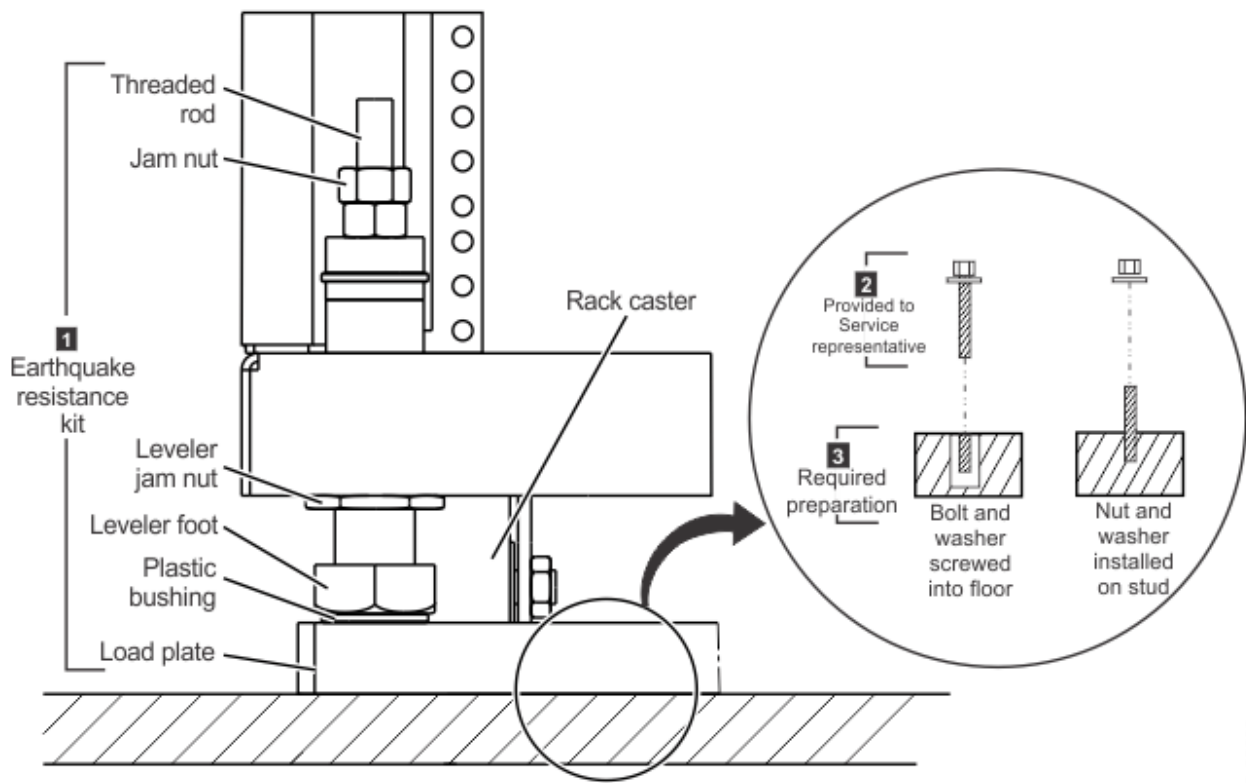

Figure 18. Earthquake resistance kit installed on a nonraised floor.
Figure 18 on page 121 provides an illustration of the earthquake resistance kit (1) after the IBM service representative installs it on the nonraised floor.
Before the IBM service representative installs the kit, you must prepare the area that is shown as 2 in Figure 18 on page 121. This figure shows two of the most common fasteners that you can use.
The following examples provide descriptions of nonraised floor fastener sets. Figure 18 on page 121 illustrates the fastener sets.
3. When the IBM service representative arrives to install the earthquake resistance kit, provide the other fastener parts (2) in Figure 18 on page 121 so that the representative can use these parts secure the load plates onto the floor.